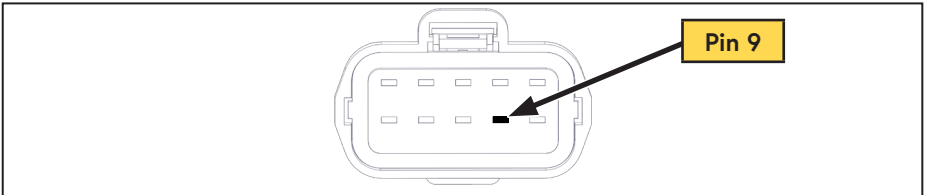

Figure 5 — View from front of connector
- ☐ Locate the yellow wire with blue stripe going to pin 9 in the transmission range sensor connector (Figure 5).